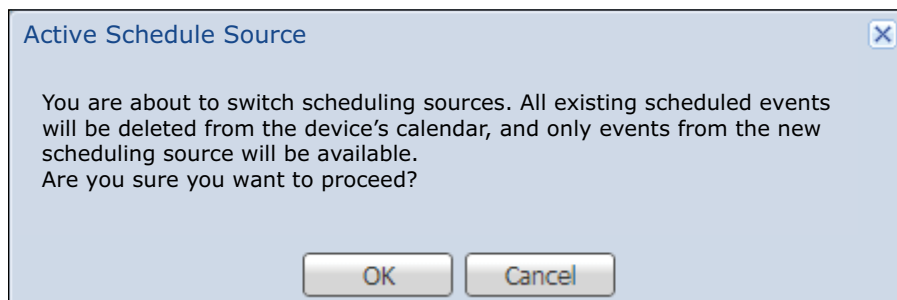

Figure 44. Active Schedule Source Dialog
3. From the SMP 351 **Schedule Settings** page, select the **Centralized scheduling via Opencast server** radio button or click the **Opencast Scheduling** tab. The **Active Schedule Source** dialog box opens (see figure 44 on page 70).